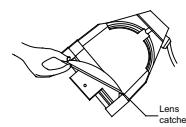

Figure 5
7. When the lens drops,remove your finger, allowing the lens to slide forward until it rests on the lens catchers (**Figure 5**) .